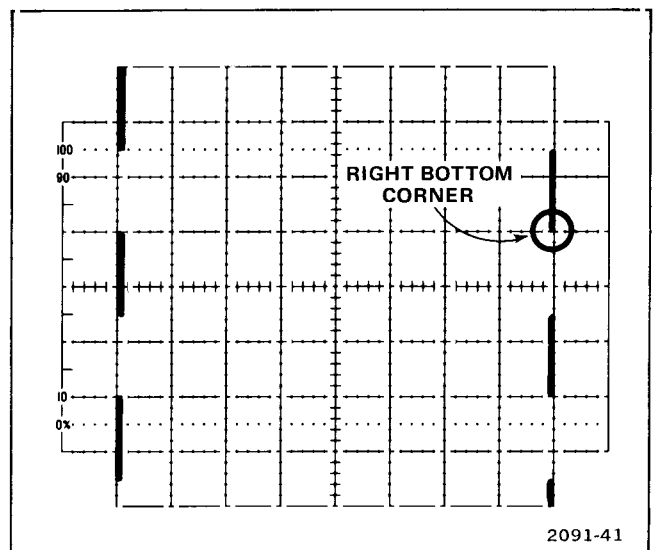

Figure 6-2. Typical display for adjusting horizontal compensation.
e. ADJUST–R215 (X Gain) for an 8-division display on the 607 as shown in Figure 6-2.
h. ADJUST–C200 (+ X Atten Comp) for an optimum square right bottom corner on the 607 display (see Fig. 6-2). For best accuracy, position the display corner of interest to graticule center.
j. ADJUST—C300 (- X Atten Comp) for an optimum square right bottom corner on the 607 display (see Fig. 6-2). For best accuracy, position the display corner of interest to graticule center.
o. ADJUST—C246 (X HF Comp) for an optimum square right bottom corner on the 607 display (see Fig. 6-2). For best accuracy, position the display corner of interest to graticule center.